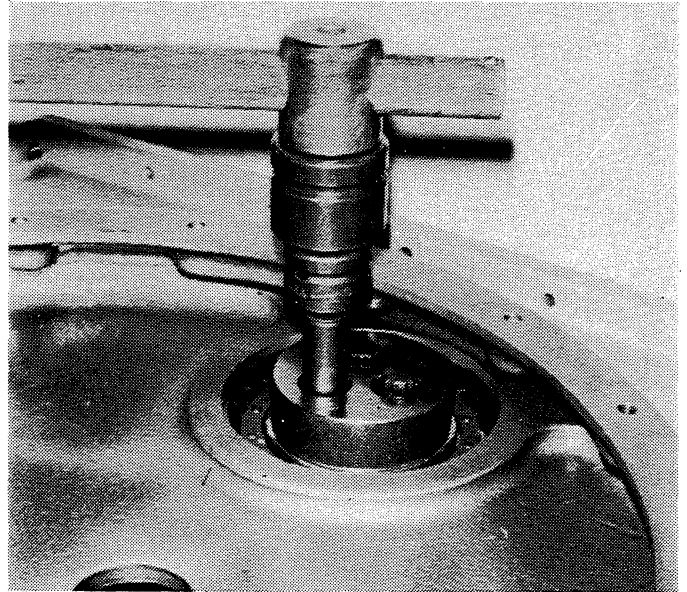

Figure 6-35. Removing or Installing Screws on Retainer Washer on Front of Output Shaft.
1. Remove three externally wrenched screws (Figure 12-5, 27), (See Figure 6-35) from the retainer washer (29) on the front of the output shaft (28) and remove the retainer washer.